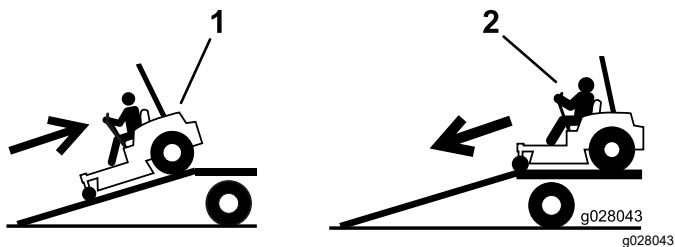

**Figure 36**
4. Back the machine up the ramp (Figure 36).